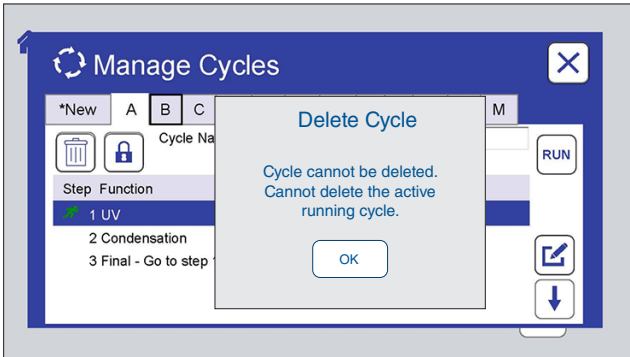

Figure 11.6.2b: The active running cycle cannot be deleted. Touch OK to clear message.
- An actively running cycle cannot be deleted (Figure 11.6.2b).